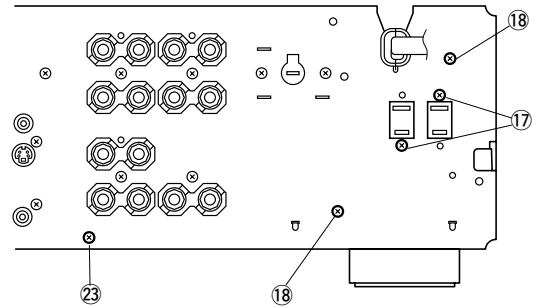

Fig. 7
- d. Remove the Input (4) P.C.B, Operation (5)/(3)/(2) P.C.B. and Input (1)/(2) P.C.B.
- e. Remove 6 screws (17, 18 and 19) and then remove the Main (5)/Power (1) P.C.B. in Fig. 7 and 8.
- g. Remove 4 screws (21, 22 and 23) and then remove the Main Chassis in Fig. 7 and 8.